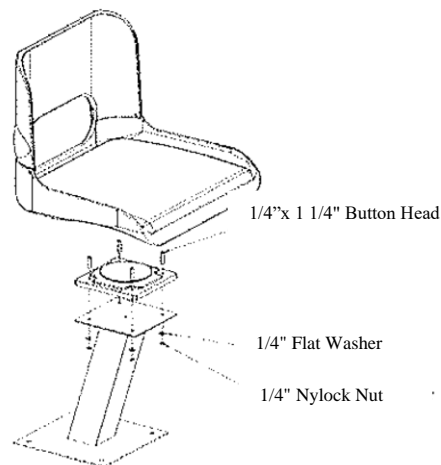

Figure 4
Step 1. Locate the Seat Pedestal, Seat Swivel, and the Folding Seat. Use the Hardware shown in figure 4 to attach the Swivel to the Pedestal. Next, slide the Seat Swivel onto the bottom of the folding seat.